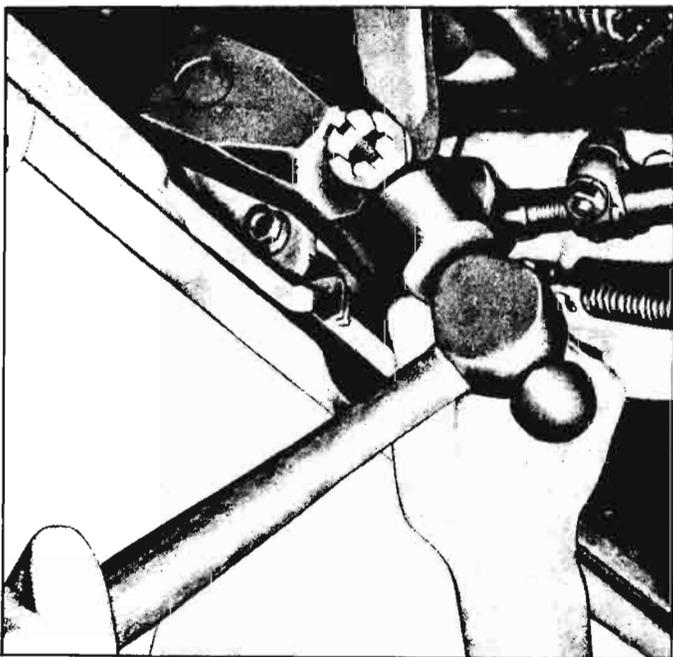

Fig. 4-35—Freeing Ball Stud
- another hammer of slightly lighter weight, as shown in Figure 4-35.